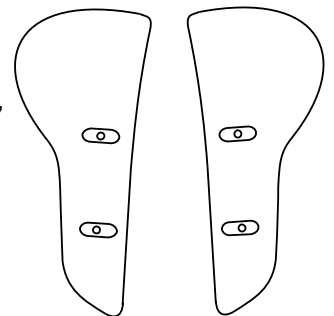

Fig. 8
10. Use the 5/32" short arm allen wrench to remove the screw in the wing clamp part of the Biplane clamps. (Fig. 8)